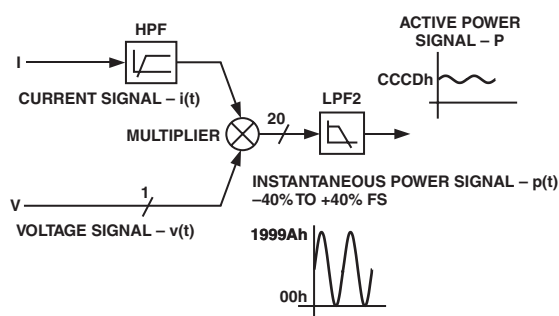

Figure 34. Active Power Signal Processing
Figure 34 shows the signal processing chain for the Active Power calculation in the ADE7759. As explained, the Active Power is calculated by low pass filtering the instantaneous power signal.
As mentioned in the last section, the discrete time sample period (T) for the accumulation register is  $1.1 \mu s$  ( $4/CLKIN$ ). With full-scale sinusoidal signals on the analog inputs, digital integrator turned off, and the Active Power Gain register set to 000h, the average word value from LPF2 is CCCD—see Figures 34 and 35. The maximum value that can be stored in the Active Energy